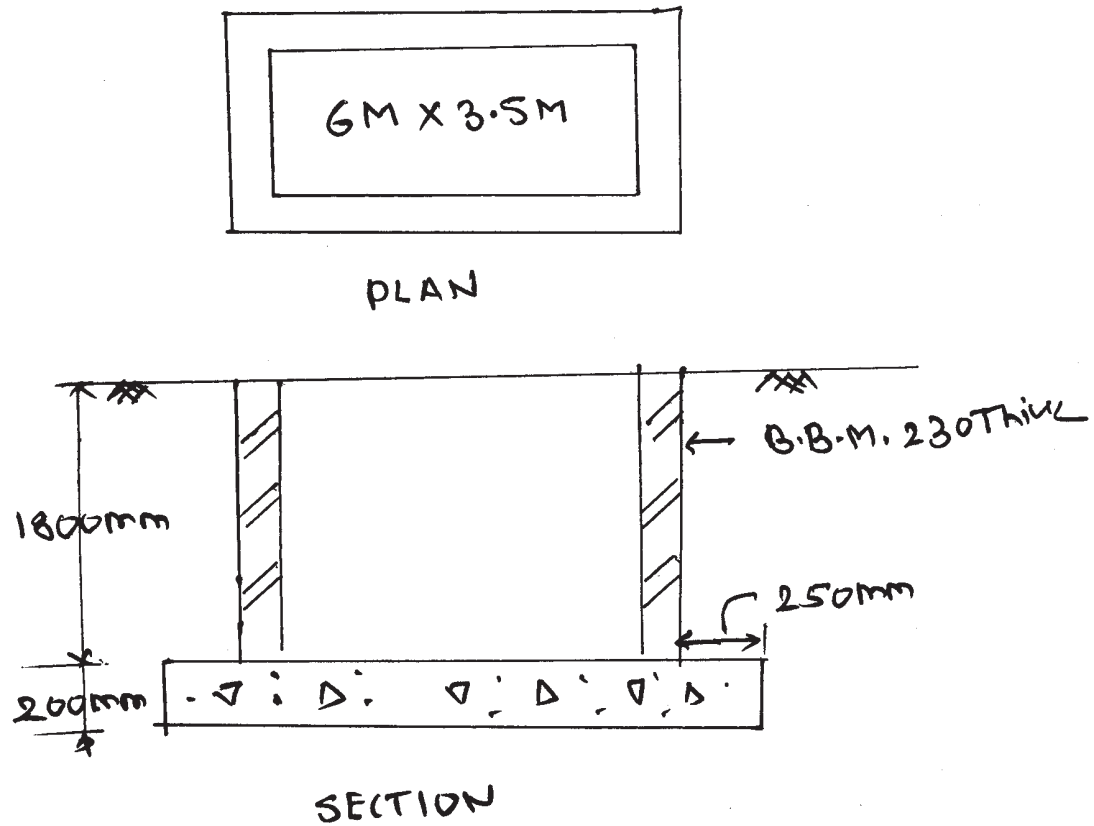

Fig. No. 4
- c) Find quantity of brickwork, bed concrete and excavation for underground water tank. Shown in Figure No. 4.